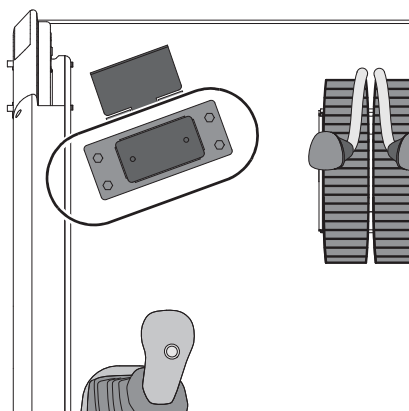

Fig. 14: Preheated fresh air
- Preheated fresh air: heater takes in air from the chassis **fig. 14**